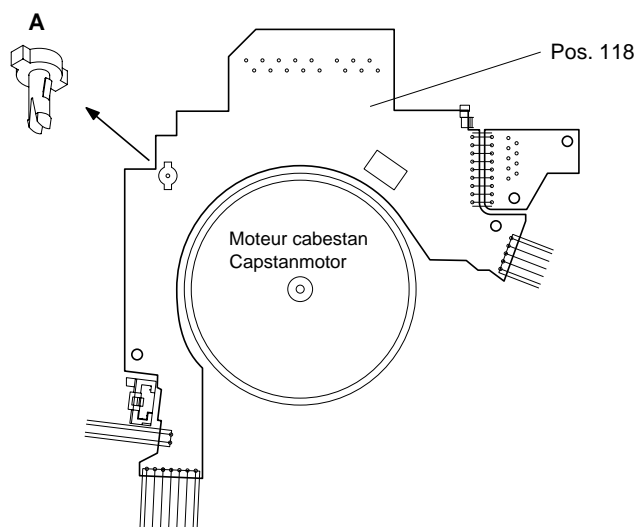

Fig. 20
- Retirer le verrou plastique "A" (Fig. 20) et retirer le C.I. de liaison.
- Lift off the sensor print assembly with the expanding arbor A (Fig. 20) and take out the circuit boards.